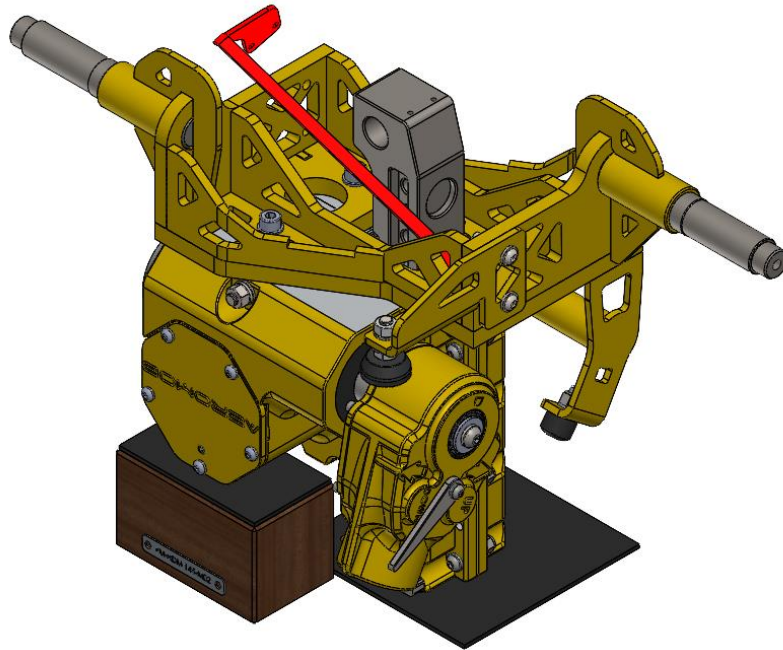

Figure 15
- ii. With the block upside down, tilt the arrow (1-4/14) towards the cover side (1-4/8) as shown in Figure 15. Position the tip of the arrow in the pit, as shown in the top